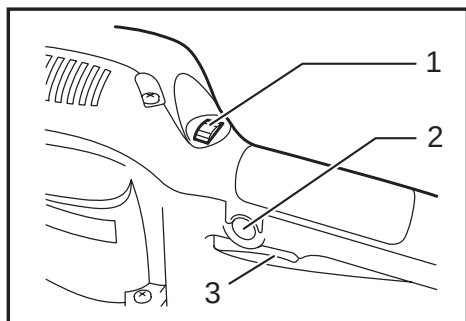

Fig.1
- **Fig.1:** 1. Speed adjusting dial 2. Lock button 3. Switch trigger